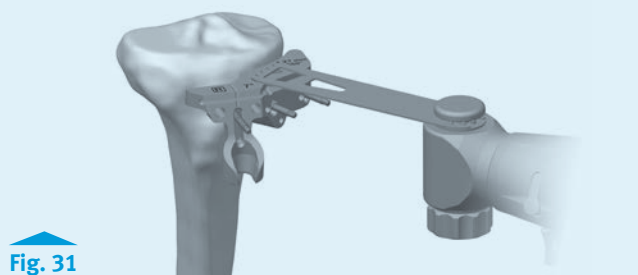
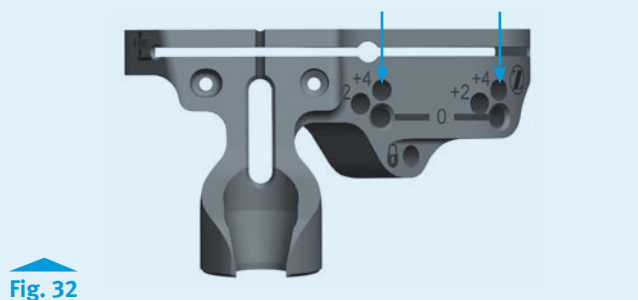

Fig. 31
Fig. 32
- If desired, the resection can be made from the top surface of the cut guide. The top surface of the cut guide is 4mm above the cut slot (Fig. 31), therefore the position of the cut guide must be adjusted by moving the cut guide from the headless pins and reinserting the cut guide through the holes marked “+4” (Fig. 32).